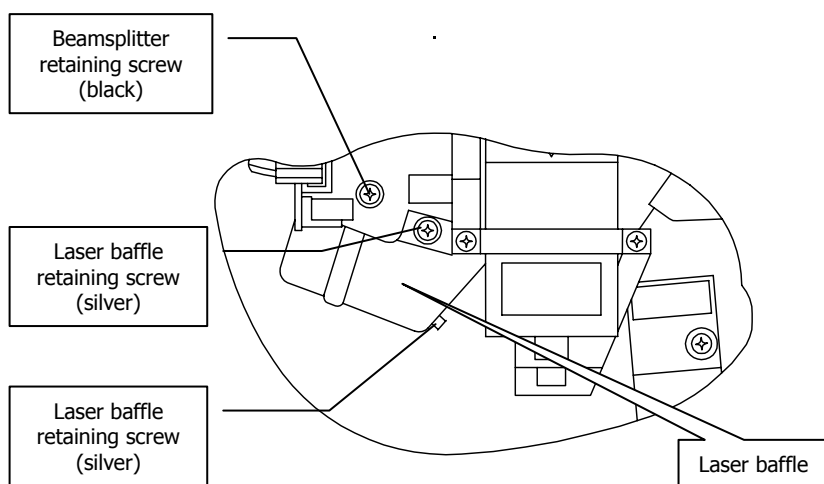

Figure 37 Laser Baffle
2. Unscrew the laser baffle retaining screws and remove the laser baffle, as shown in Figure 37.